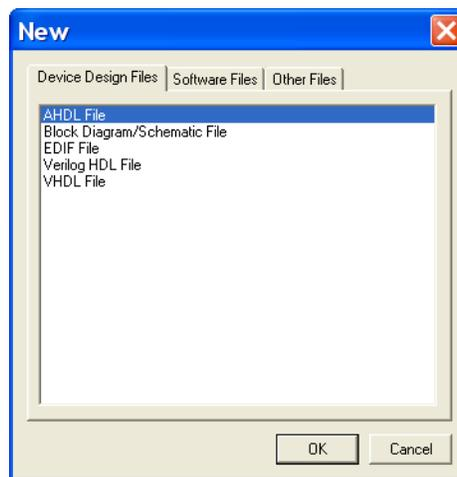
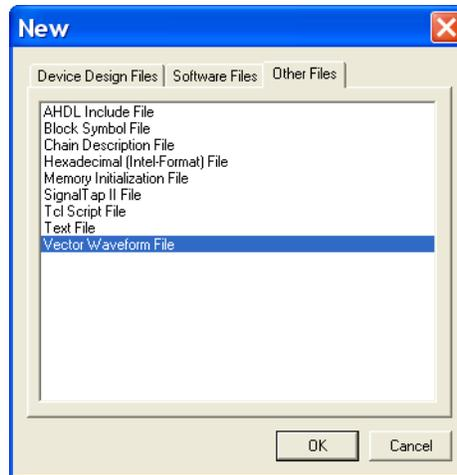

Figure 3. Need to prepare a new file.
Figure 4. Choose to prepare a test-vector file.
1. Open the Waveform Editor window by selecting **File > New**, which gives the window shown in Figure 3. Click on the **Other Files** tab to reach the window displayed in Figure 4. Choose **Vector Waveform File** and click **OK**.